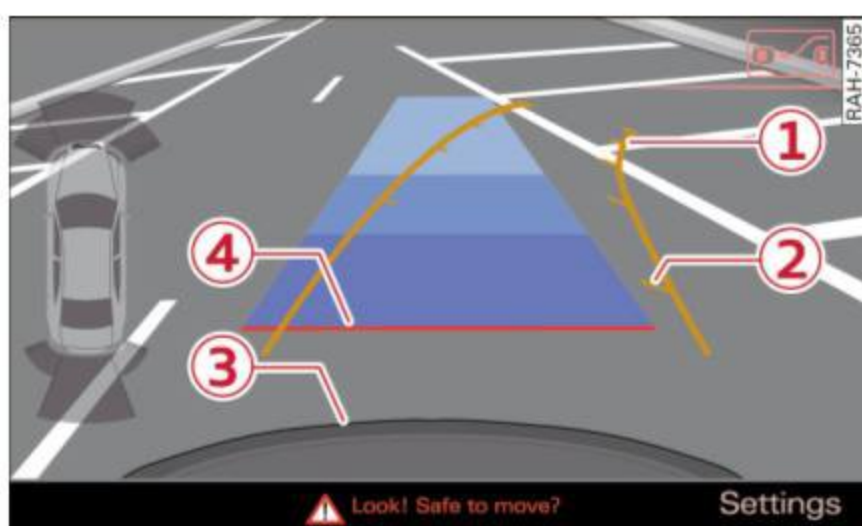

Fig. 115 MMI Display: Aiming at a parking spot
- ▶ Turn the steering wheel until the orange orientation lines ① appear in the parking spot ⇒ *fig. 115*. Use the markings ② to help you estimate the distance from an obstacle. Each marking corresponds to 3 ft (1 m). The blue area represents an extension of the vehicle's outline by approximately 16 ft (5 m) to the rear.
- ▶ While driving in reverse gear, adjust the steering wheel angle to fit the parking space with the aid of the orange orientation lines ⇒ ①, ③ marks the rear bumper. You should stop driving in reverse as soon as and no later than when the red orientation line ④ abuts an object ⇒ ⚠!